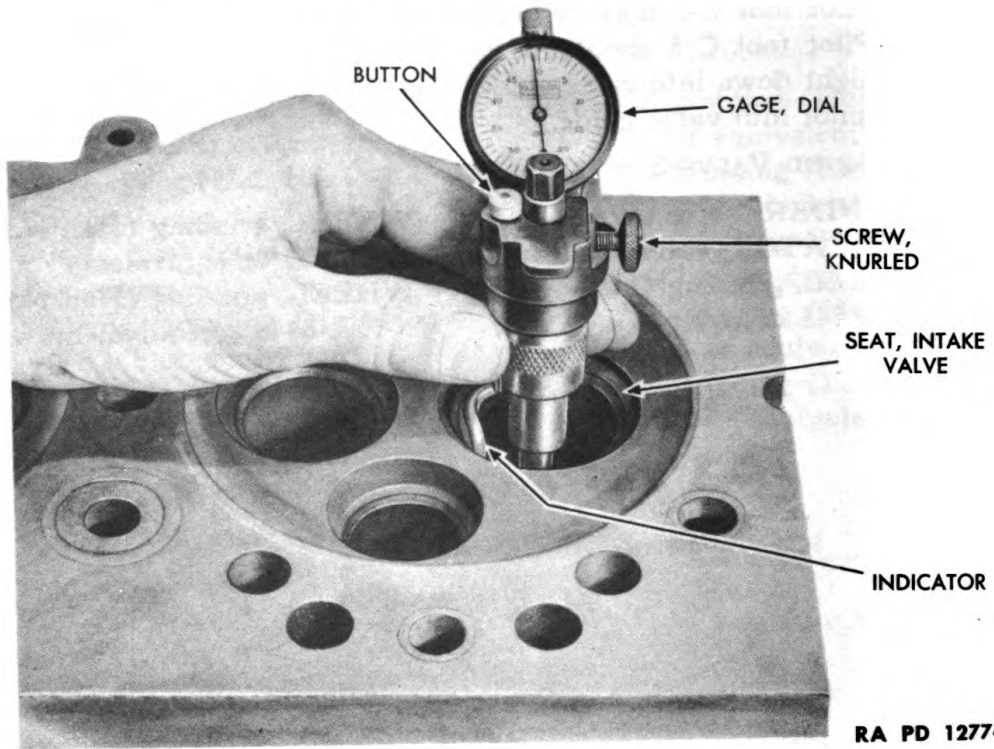

Figure 83—Checking Valve Seat Concentricity
(3) **CHECK VALVE SEAT** (fig. 83).